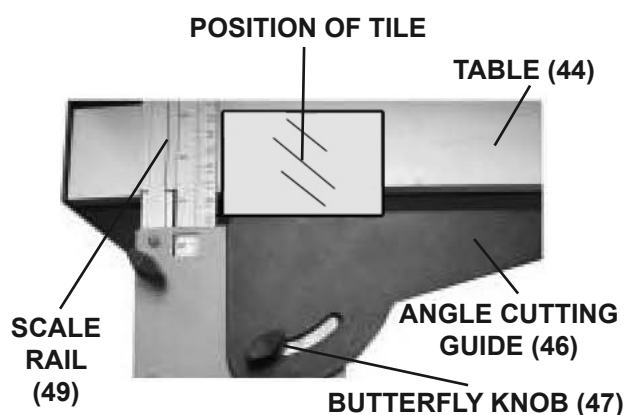

FIGURE 10
1. Loosen the T-Knob (47) on the Angle Cutting Guide (46) and position at 90 degrees on the Scale Rail (49). Then, retighten the T-Knob. (See Figure 10.)
2. To Adjust the gap between the Angle Cutting Guide (46) and the cutting slot in the Table (44), loosen the Butterfly Knob (47) on the Scale Rail (49). Move the Scale Rail to the desired position. Then, retighten the Butterfly Knob on the Scale Rail. (See Figure 10.)
3. Position the tile against the Scale Rail (49) and Angle Cutting Guide (46). (See Figure 10.)